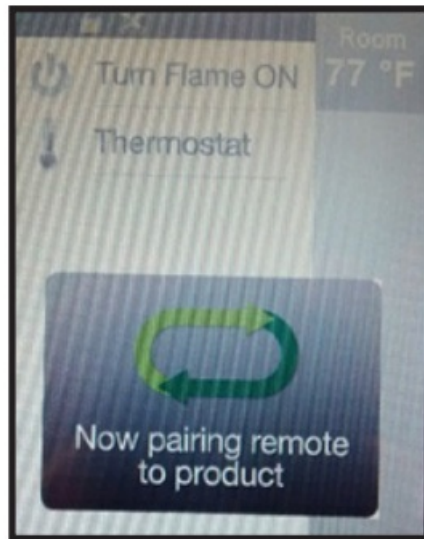

Figure 8 Pairing Remote
Note: During re-pairing, some versions of the RC400 may display ‘Now pairing remote to product’ before the being able to reach the diagnostic menu on remote. This message will impair the ability to access the pairing ICON button. See Figure 8.
4. Locate the pairing hole on the IFT-ECM. See Figure 8. Using a paper clip or similar item, press and release the pairing button. The IFT-ECM will “beep” once and the green LED blink for 14 seconds. During the 14 seconds, it is normal for accessories such as lights or fan to energize momentarily.